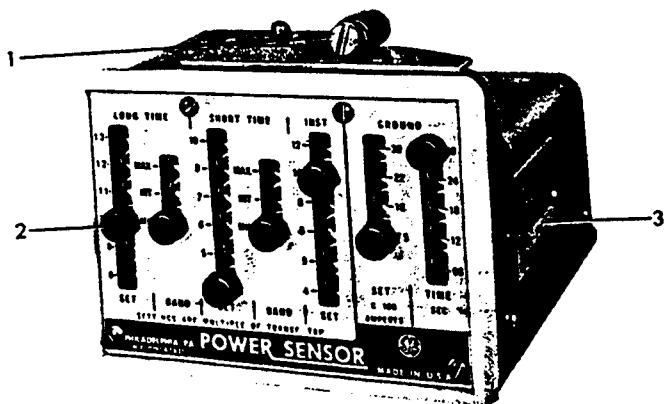

Figure 16. (8041864) Power Sensor Unit
3. The Power Sensor Unit with the various pick-up settings and time delay selection taps (Figure 16).
### POWER SENSOR UNIT (Figure 16).